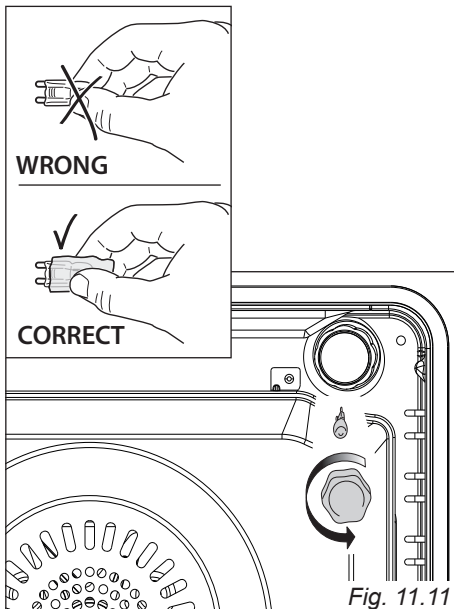

Fig. 11.11
- Remove the protective cover (fig. 11.11 - 11.12).